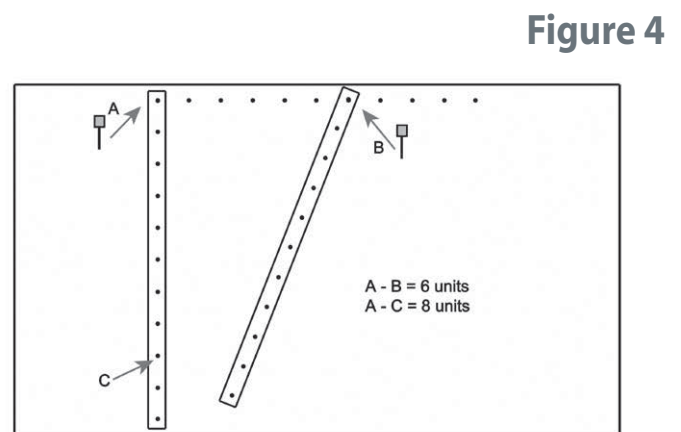

Figure 4
Step 2 (Figure 4)
Remove the clamps and the right hand Guide Pin from the Parf Stick and rotate it, about the other Guide Pin (Point A) so that it is approximately at right angles to the line of holes drilled in Step 1. Next identify the 3mm hole which is 6 units from the pivoted end of this first Parf Stick (Point B). Take the second Parf Stick and insert a 3mm Guide Pin through its end hole and also into the hole at Point B. Now identify the hole in the first Parf Stick which is 8 units from Point A, which is shown in Figure 4 as Point C.